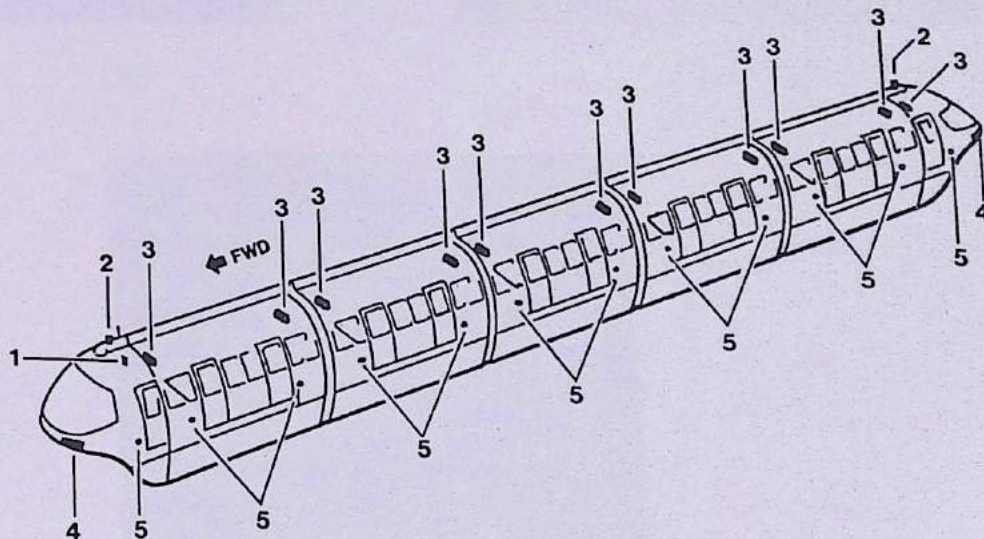

Fig. 1 Lighting - General
A. Description (Fig. 1)
(1) General